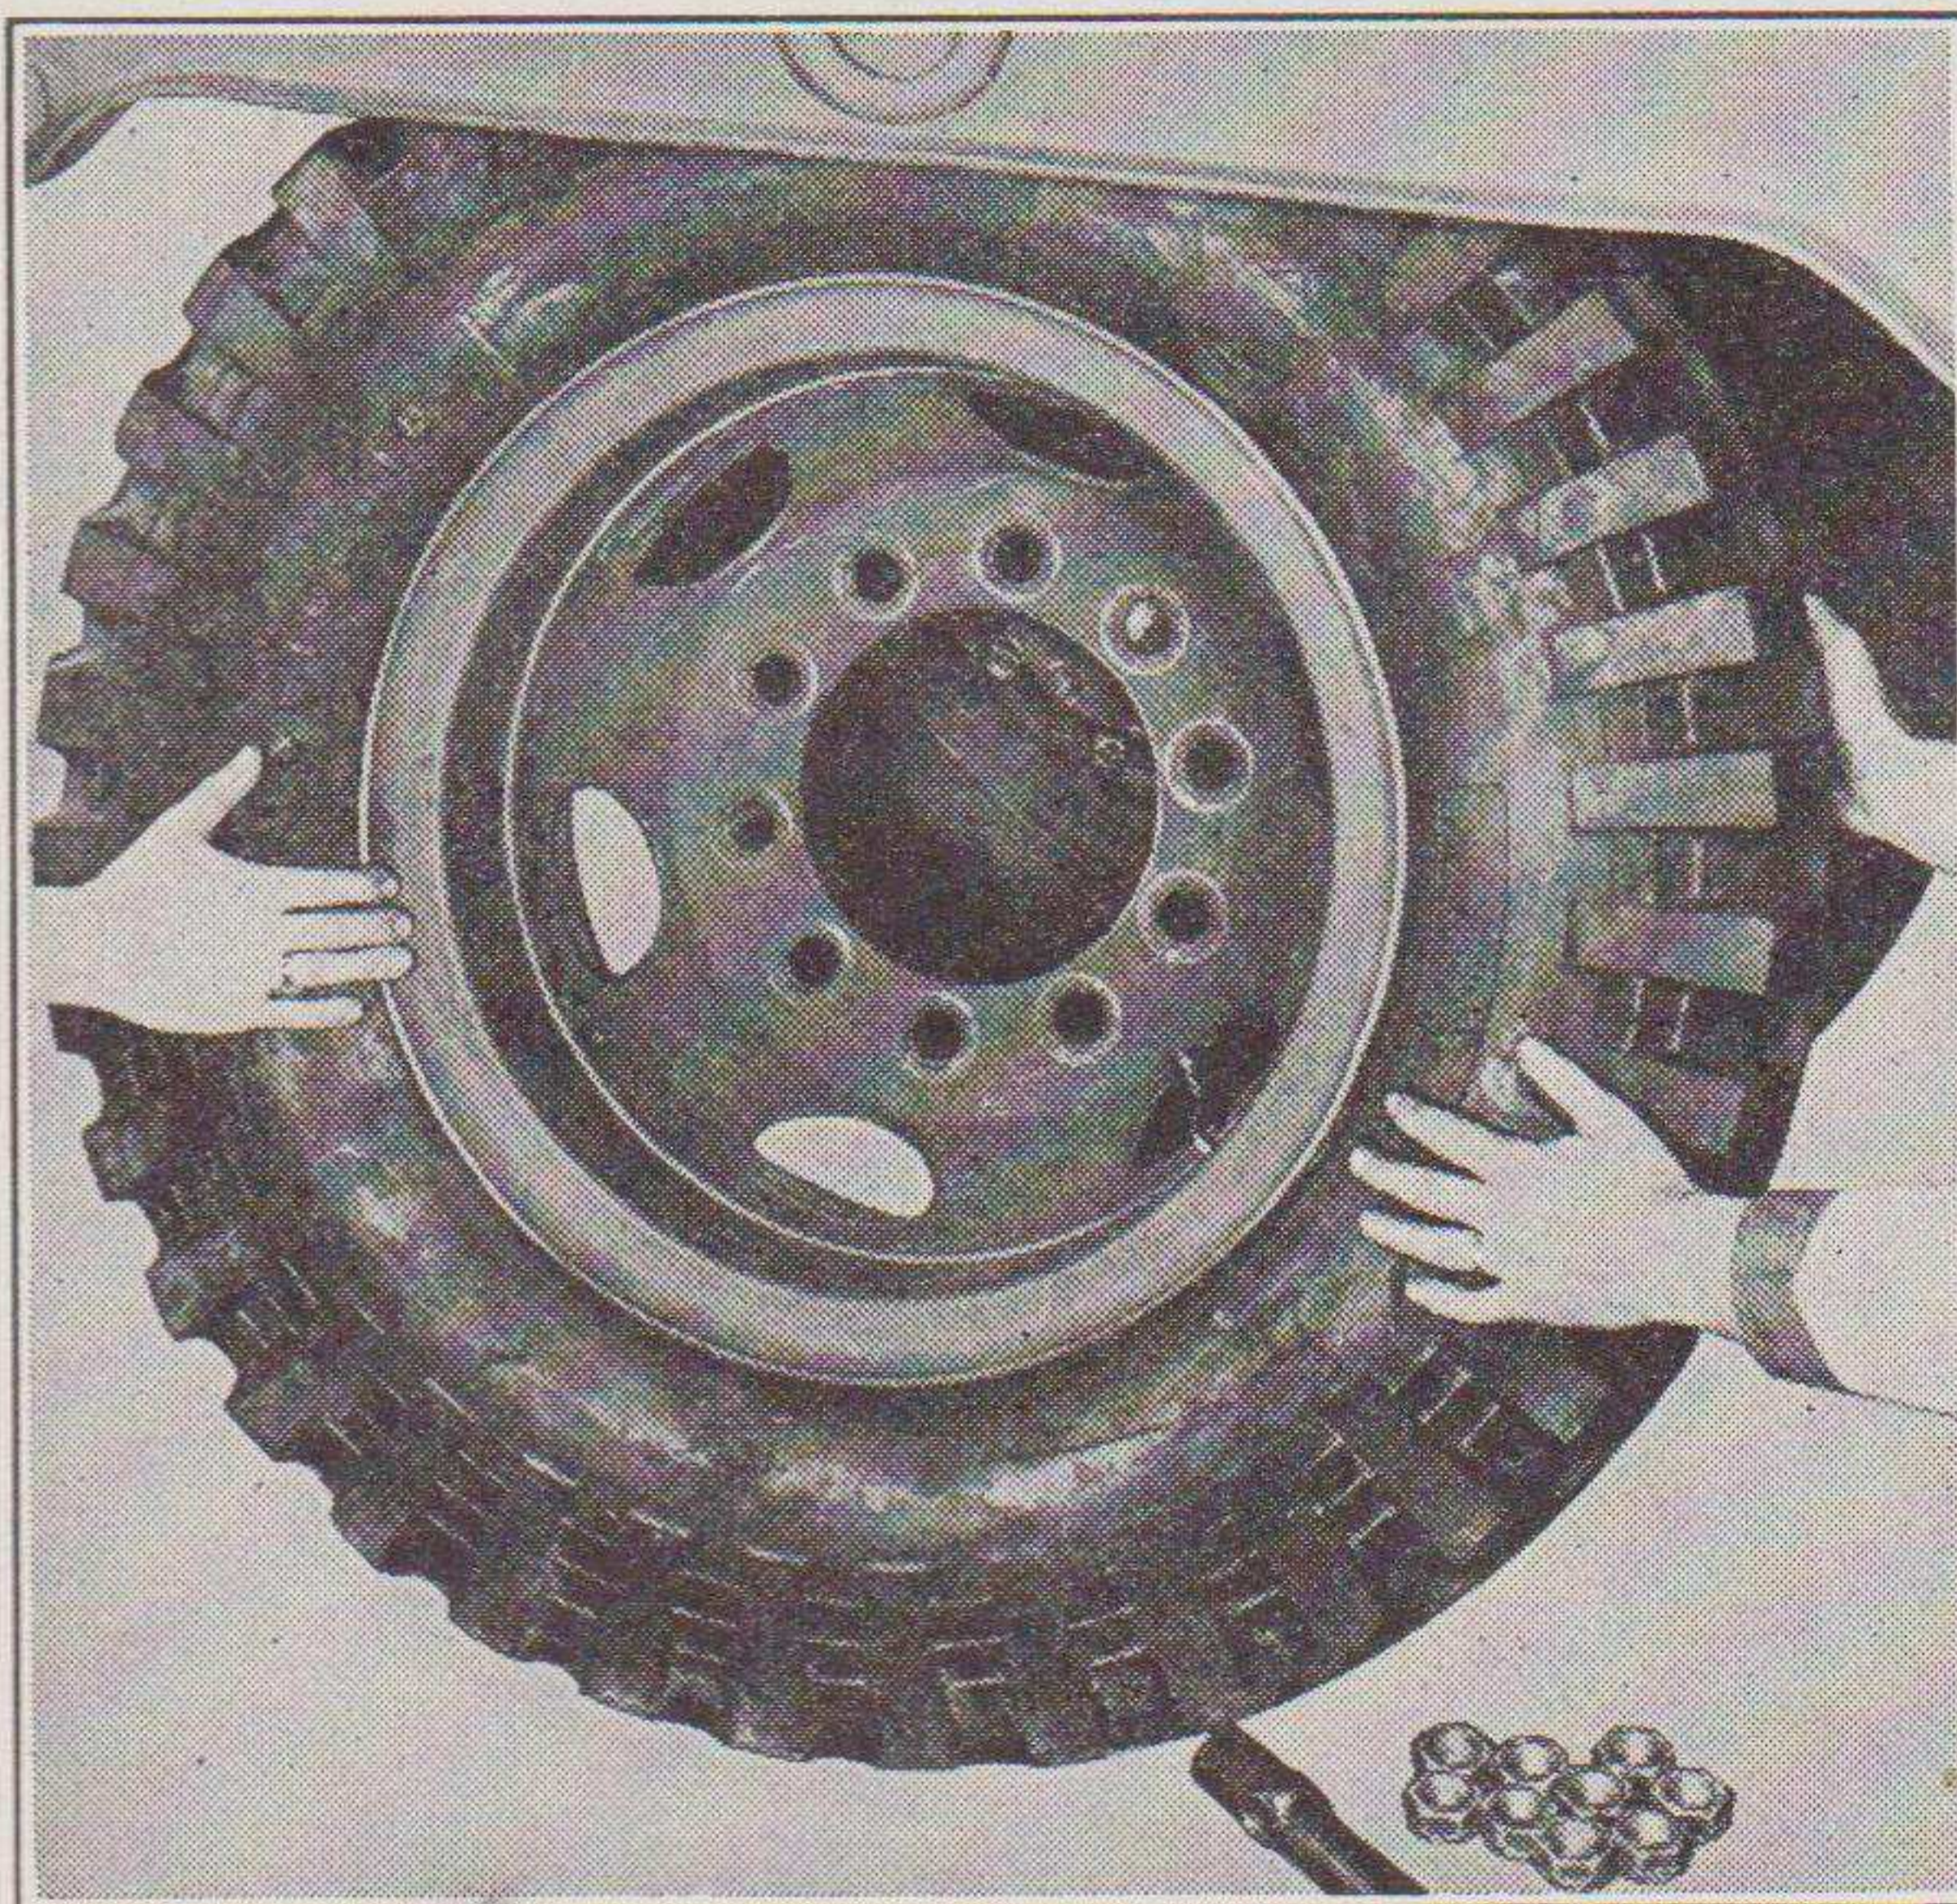

FIGURE 38. REMOVING REAR TIRE
(1) Remove the outer and inner tire wheel assembly, pulling tires out as illustrated in Figure 38.